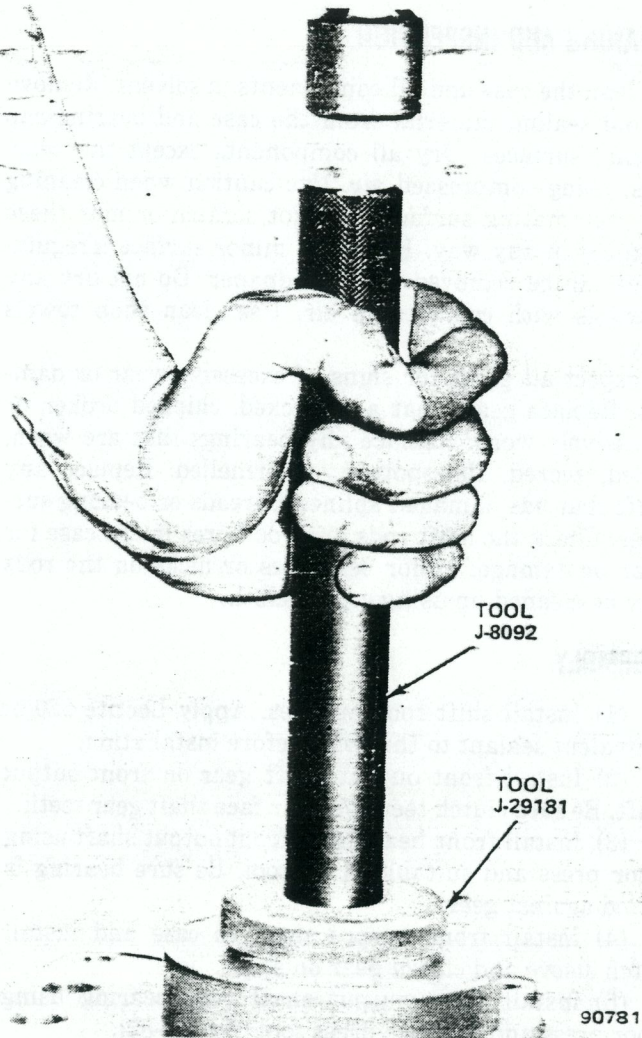

Fig. 2D-84 Front Output Shaft Front Bearing Race Installation
(34) Install front output shaft yoke. Tighten new locknut to 120 foot-pounds (163 N•m) torque. Use Tool J-8614-01 to hold yoke while tightening nut.
(35) Insert front and rear output shaft shift forks into case (fig. 2D-85).
(36) Install front output shaft shift rod poppet ball and spring in front bearing cap.
(37) Compress poppet ball and spring and install front output shaft shift rod part way in case.
(38) Insert front output shaft shift rod through shift fork.